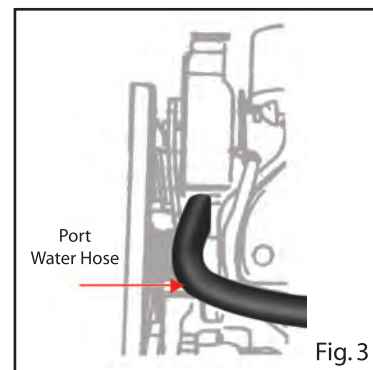

Fig. 3
4. Route the port water hose beneath the power steering pump and install on hose fitting. Tighten hose clamp securely (see Fig. 3)